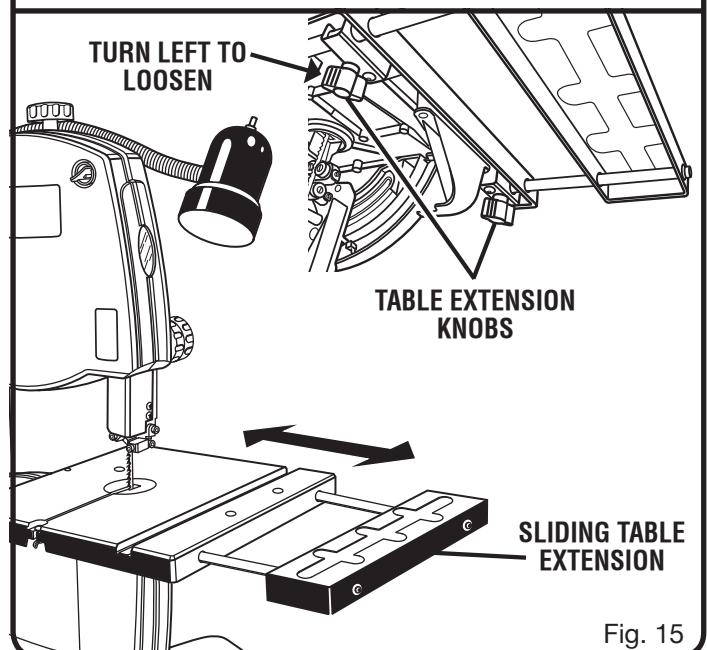

Fig. 15
See Figure 15.
- Loosen the table extension knobs beneath the sliding table extension as shown in figure 15.